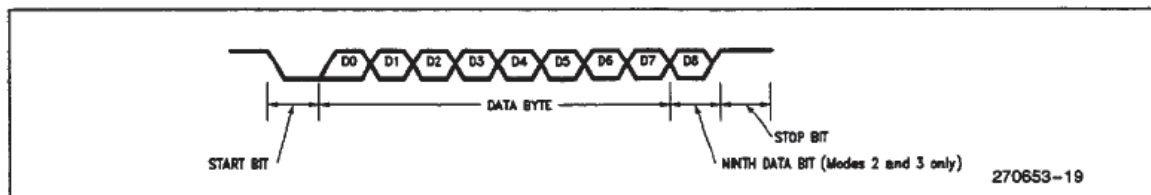

Figure 22. Data Frame: Modes 1, 2 and 3
Mode 2: 11 bits are transmitted (through TXD) or received (through RXD): a start bit (0), 8 data bits (LSB first), a programmable 9th data bit, and a stop bit (1). Refer to Figure 22. On Transmit, the 9th data bit (TB8 in SCON) can be assigned the value of 0 or 1. Or, for example, the parity bit (P in the PSW) could be moved into TB8. On receive, the 9th data bit goes into RB8 in SCON, while the stop bit is ignored. (The validity of the stop bit can be checked with Framing Error Detection.) The baud rate is programmable to either $\frac{1}{32}$ or $\frac{1}{64}$ the oscillator frequency.